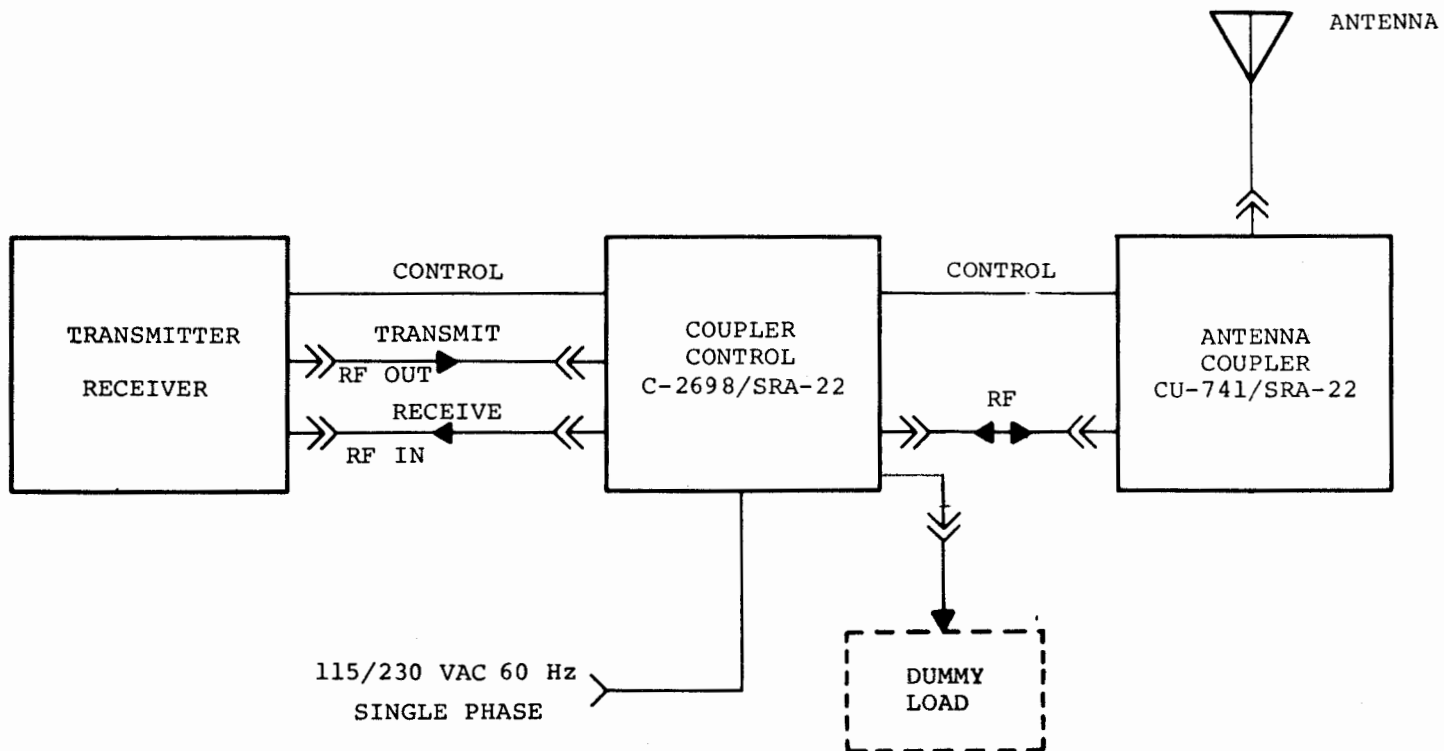

Figure 6-27 Antenna Coupler Group AN/SRA-22
- c. INTERCONNECTION DIAGRAM. - See Figure 6-27.